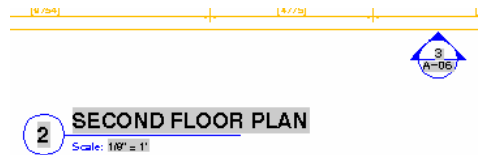

Figure 3.
- Repeat the process for each of the fields as indicated in Figure 3: PlotDate, DeviceName, PageSetupName, Login.